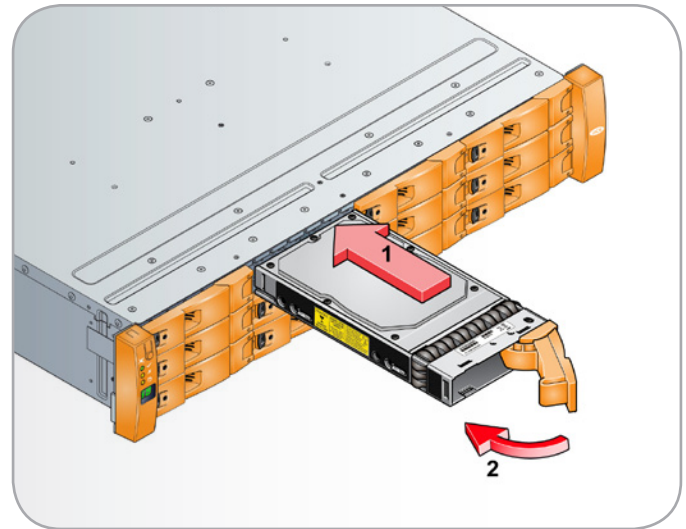

Fig. 91 - Inserting the Drive Carrier Module
3. Slide the Drive Carrier module, gently, all the way into the enclosure until it stops and seat it by pressing with your thumb on the left edge of the module (Fig. 91).